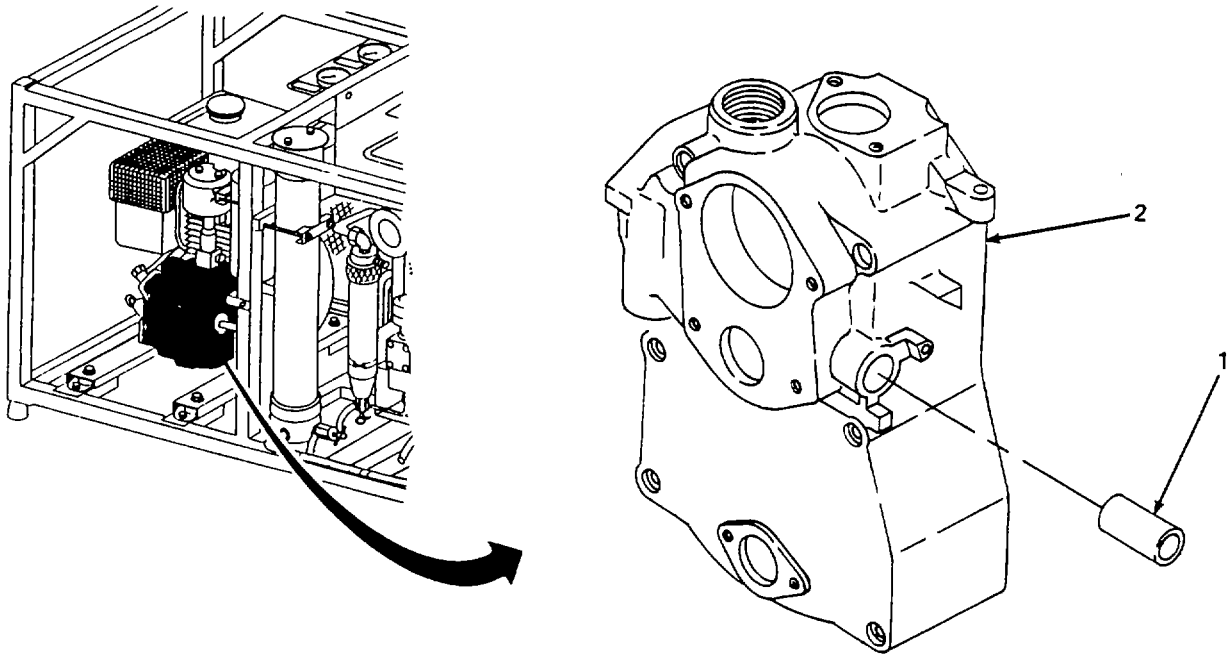

Figure 6-15. Shaft Bushing, Replace.
- (1) Replace shaft bushing. (figure 6-15)
- (b) Press shaft bushing (1) out of gear cover (2).
- (c) Clean bore in gear cover (2) and ensure no scores or grooves are present.
- (d) Coat new shaft bushing (1) with clean engine oil.
- (e) Press new shaft bushing (1) into gear cover (2).